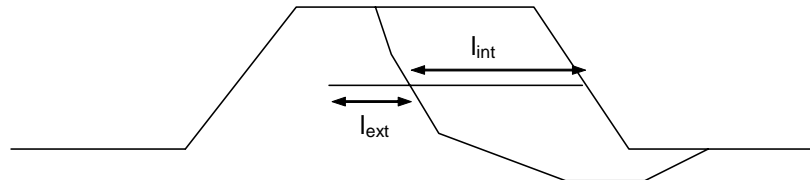

Figure 51: traction calculation
- *Calculation method for traction:* for strips, one can consider 2 failure types because of a lack of adherence: internal and external. Indeed, strip heads are not always anchored, and the failure can then occur on either side of the failure surface: Talren can (Figure 51):